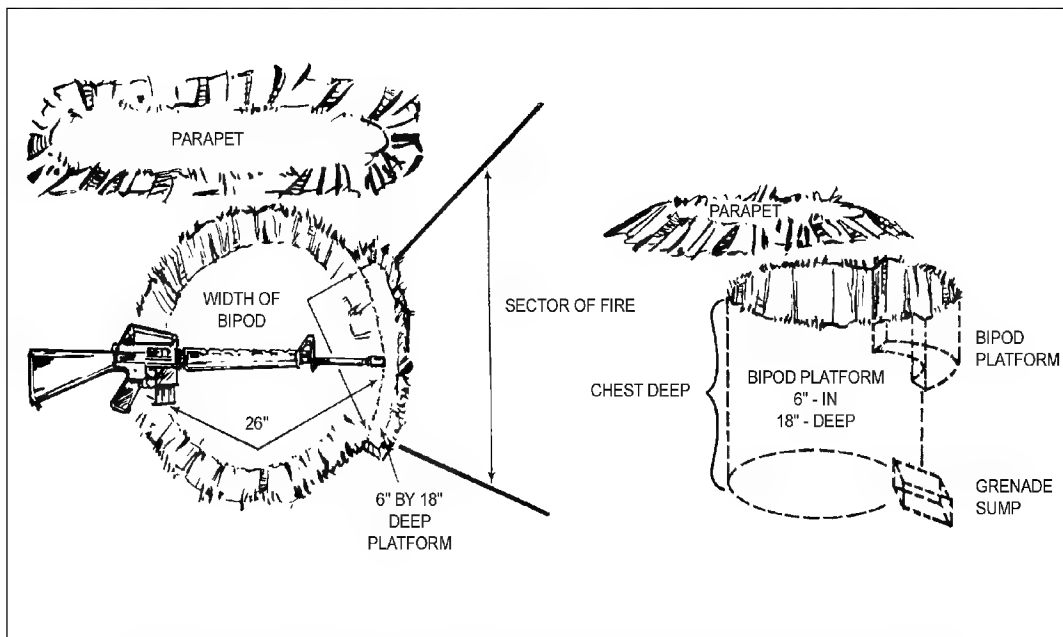
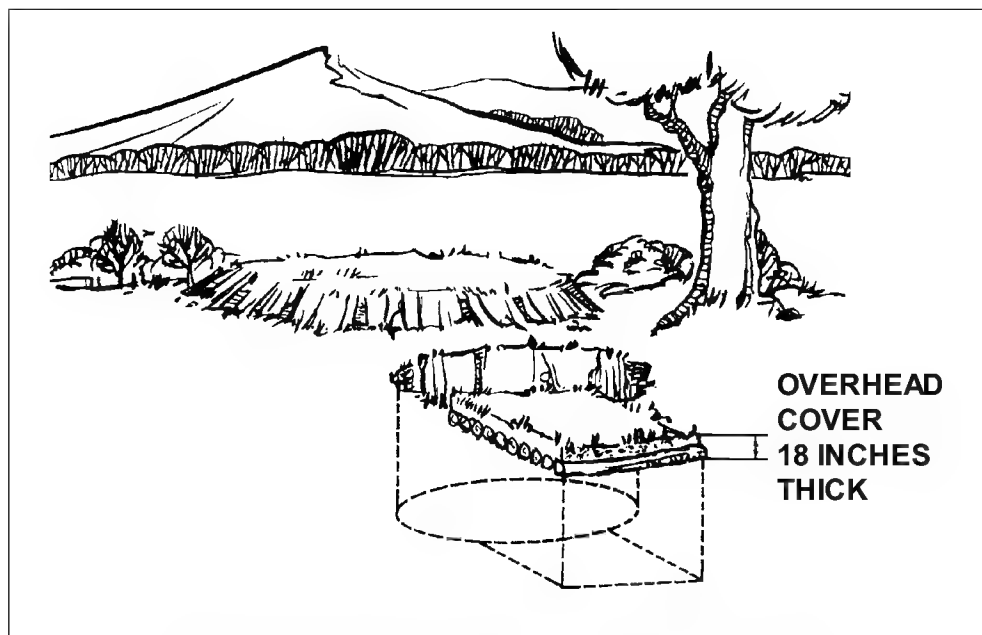

Figure 8-4. Construction of a one-person fighting position.
Figure 8-5. Construction of overhead cover.
(1) When the gunner fires from an improved position, the muzzle end of the launcher must extend 15 centimeters (6 inches) beyond the front of the hole. The rear of the launcher must extend out over the back of the hole. As the missile leaves the launcher, the unfolding stabilizing fins require at least 15 centimeters (6 inches) of clearance above ground. The position should offer protection to the front (a parapet) or other natural or man-made cover.
(2) Gunners clear the ground in front of and behind the position. They remove rocks, sand, and debris. This prevents a dust cloud from forming when the gunner fires. Dust would obscure a gunner's vision and marks the location for enemy observers. When the gunner must fire in only one direction, a one-person fighting position works best (Figure 8-4, following; and Figure 8-5, page 8-5).